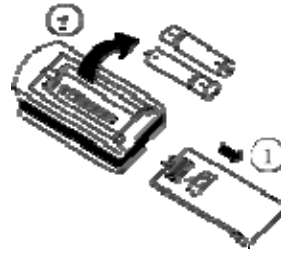

Fig 8.1
1、 Slightly to press the place with  along the arrowhead direction to push the back cover of remote controller.(As show in Fig 8.1.)